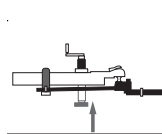

Figure 32
6. Insert the Snap L-pins. (Figure 32)
7. With both arms secured, lower the jack, then retract it completely. (Figure 32)